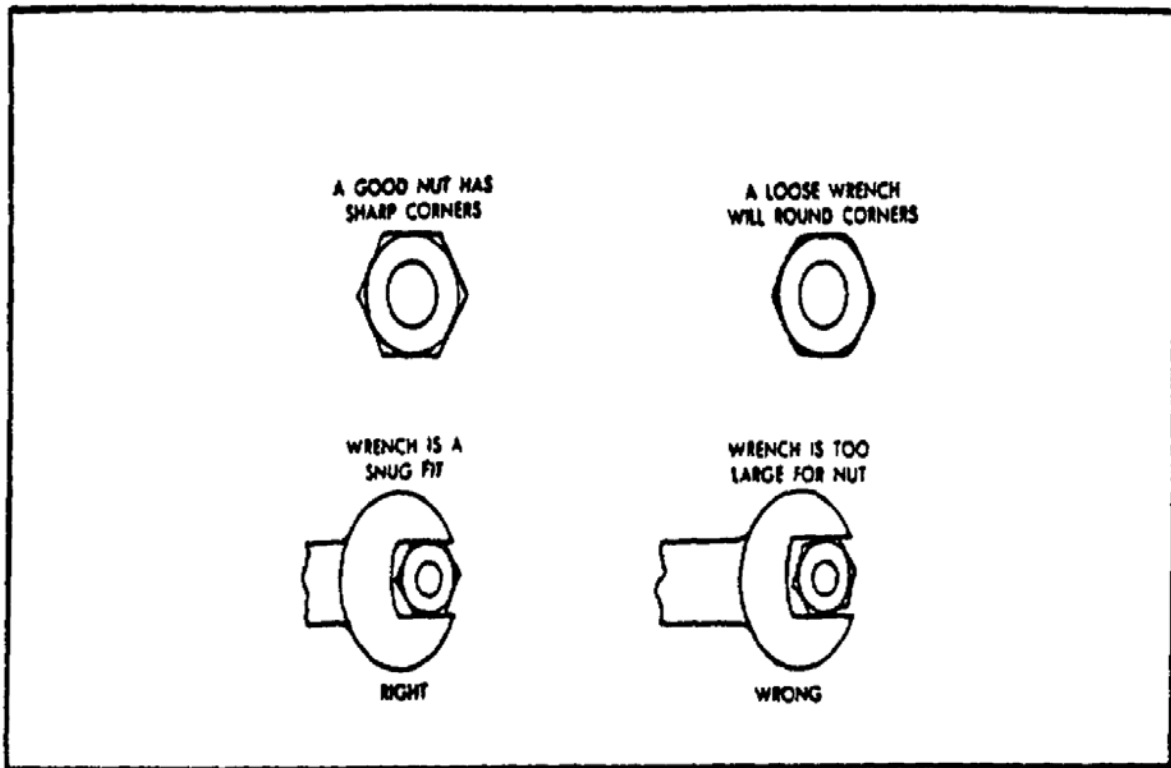
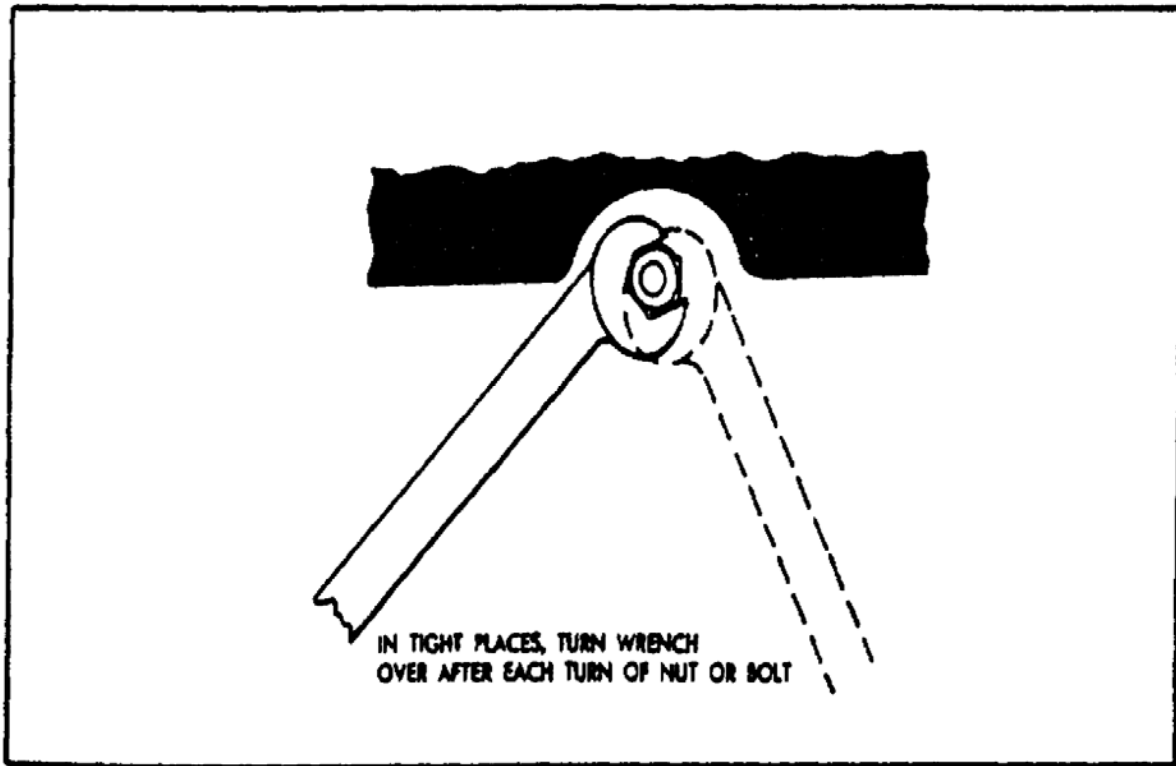

FIGURE 24. FITTING OPEN-END WRENCH.
FIGURE 25. USE OF OPEN-END WRENCH.
(1) *Open-End Wrenches.* It is important for a wrench to be a snug fit on a nut or bolt head. If it is too loose, the wrench will slip and round the corners. Make certain that the wrench fits squarely on the sides of the nut or bolt head, as shown in figure 24 . Offset open-end wrenches make it possible to turn a nut or bolt that is recessed, and in limited quarters where there is little space to swing the wrench. Turn the wrench over after each swing so that the opposite face is down, and the angle of the wrench opening is reversed, as shown in figure 25 . Always place yourself so that you can pull on the wrench to turn the work in the desired direction. There are times, however, when the